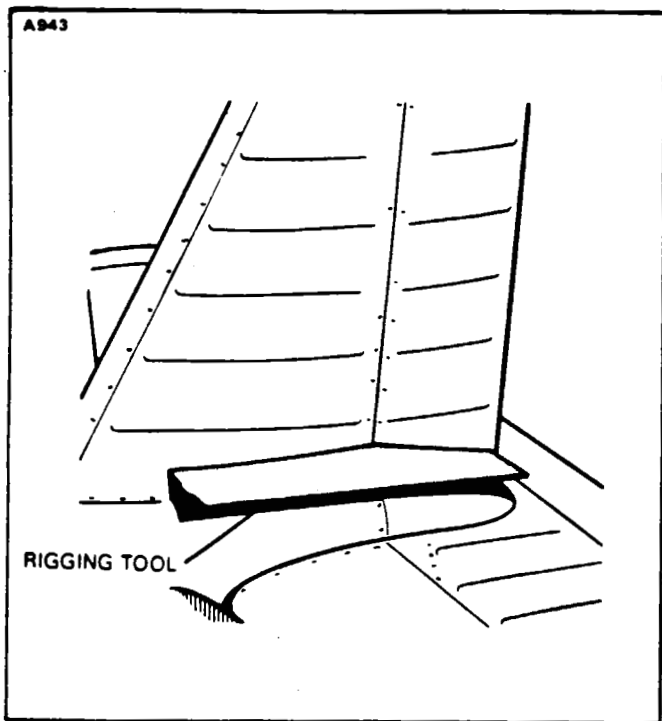

Figure 27-9. Rudder Rigging Tool
- B. With the rudder against its stop, place a rigging tool against the side of the rudder and vertical stabilizer as shown in Figure 27-9. (Ascertain that the tool is not contacting any rivets.) If no gap exists between the rigging tool and the surface of the rudder and vertical stabilizer, the rudder stop for one direction of travel is correct. (This tool may be fabricated from dimensions given in Chapter 95.)